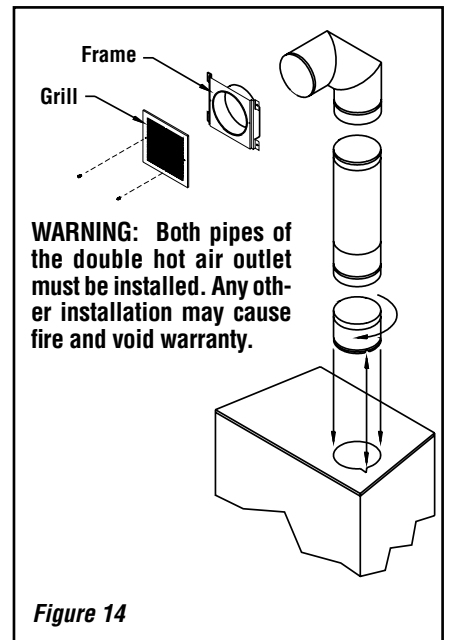

Figure 14
The gravity kit is designed for double hot air outlets and includes: (See Figure 14).
1. Remove the plates closing up the 8" dia. holes on top of the fireplace. Then, cut the insulation in order to obtain two 8" dia. openings. Fix the adaptors on the fireplace openings by turning clockwise (**Figures 14 and 15**).